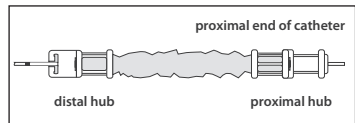

Figure 3
- 0 Insert tip of desired catheter through proximal end of catheter contamination shield. Advance catheter through tubing and hub at other end (refer to Figure 3).